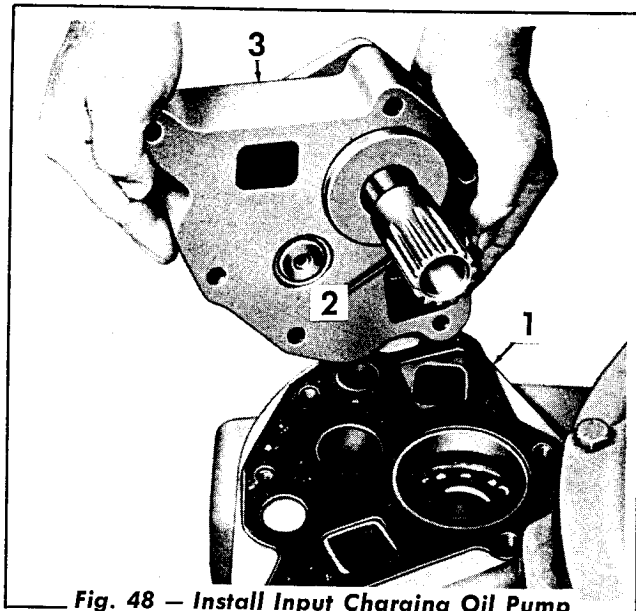

Fig. 48 — Install Input Charging Oil Pump Assembly
2. Piston Return Spring and Spring Guide (12)
12. Install the pump gasket (Fig. 48). Install the coupling on the pump shaft and install the input charging oil pump assembly.